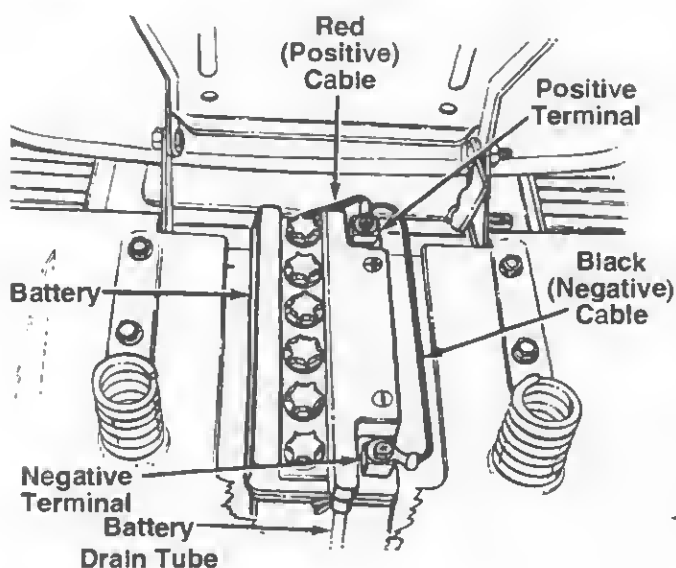

FIGURE 6.
- ← See figure 6. Route the battery drain tube down beside the battery.
4. Remove the hex bolt from the positive (+) terminal. Place the positive cable on the positive terminal. See figure 6. Secure with hex bolt. Be careful not to lose the nut inside the terminal.